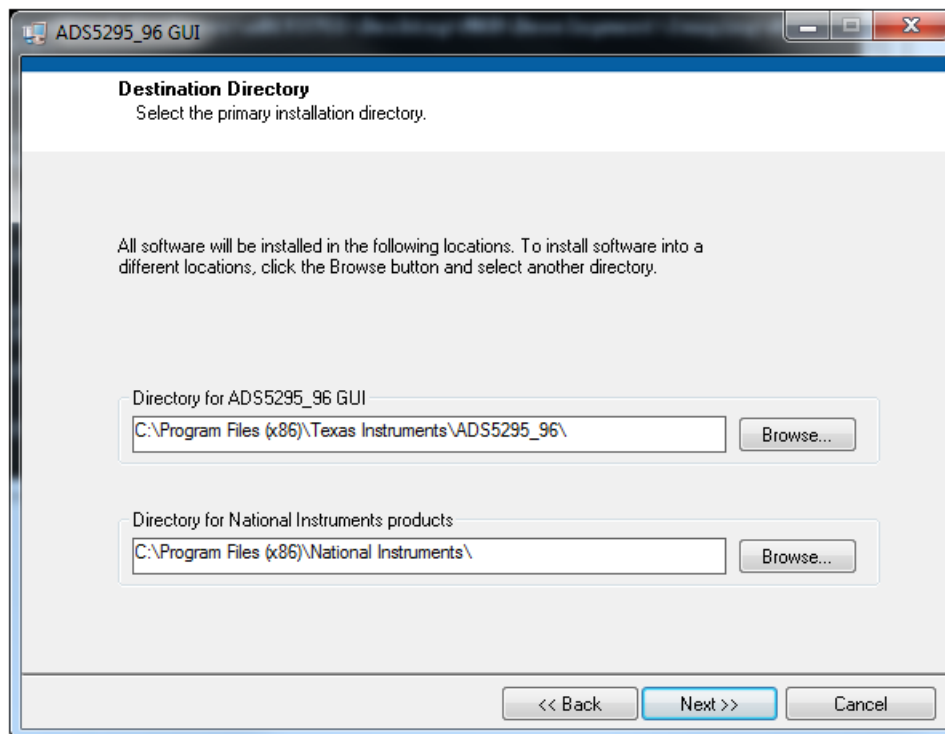

Figure 12. ADS5296 GUI Install (b)
- Set the destination directories for the ADS5295_96 GUI installation or leave as default and press the *Next* button as shown in Figure 12.